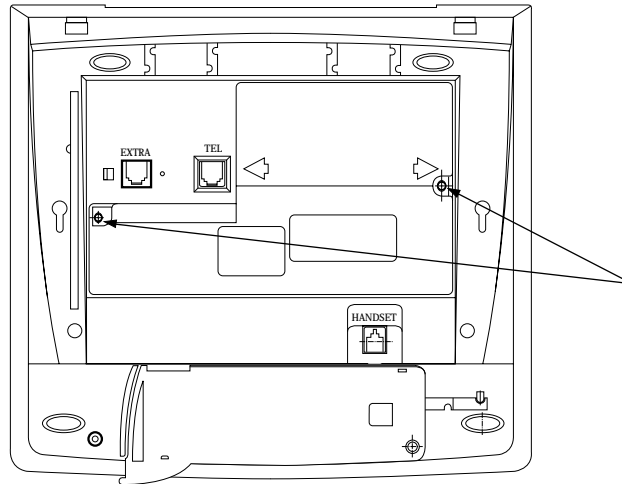

FIGURE 8-5 BOTTOM OF KTS (Euro KTS)
5. Tighten two (2) screws of KDB-S. (See Figure 8-5)
5. Tighten two (2) screws of KDB-D. (See Figure 8-5)